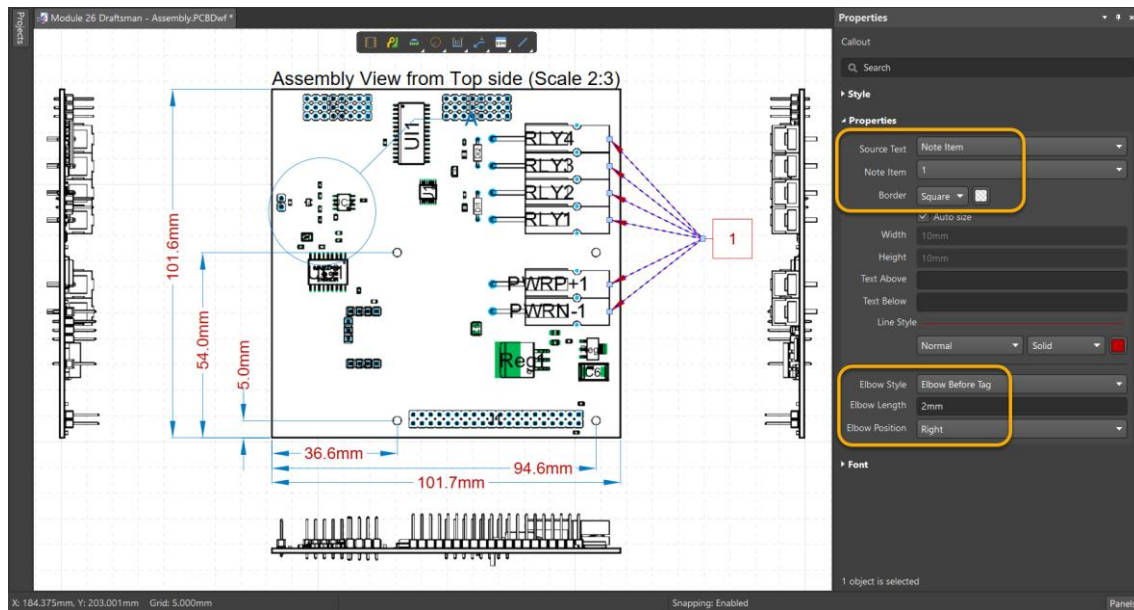

Figure 8. Callout configuration
19. Select the Callout and open the *Properties* panel to configure the parameters for the callout, as seen at Figure 8.